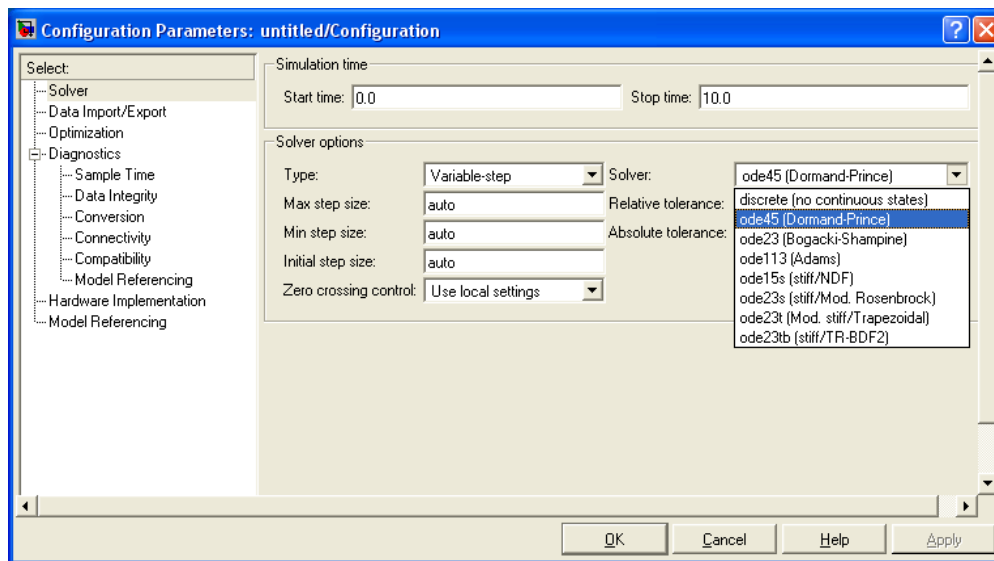

Figure 3.3: The **Configuration parameters** dialog window. **Type** is **Variable step**.
Figure 3.3 shows the **Configuration parameters** dialog window with default settings.
- *Solver options*: **Type** can be either **Variable step** (default) or **Fixed step**. For each of these selection, you can select among different simulation algorithms or methods in the field to the right of the **Type** field, see Figure 3.3:
As an alternative to setting simulation parameters in the **Configuration parameters** dialog window, cf. Figure 3.3, you can set the parameters by defining them as arguments to the `sim` function which you use in a Matlab script. Such parameter settings overrides settings in the dialog window.
- Via the **Data import/export** menu option in the **Configuration parameters** dialog window, cf. Figure 3.3